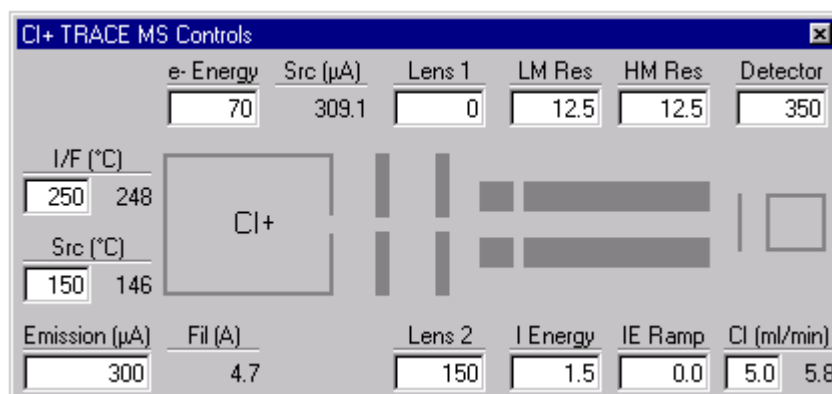

Figure 3-2. TRACE MS Controls bar with CI flow set at 5 ml/min
4. In the TRACE MS Controls bar, set the CI reagent gas flow to about 5 ml/min using the CI (ml/min) text box at the bottom-right of the Controls bar (see Figure 3-2).